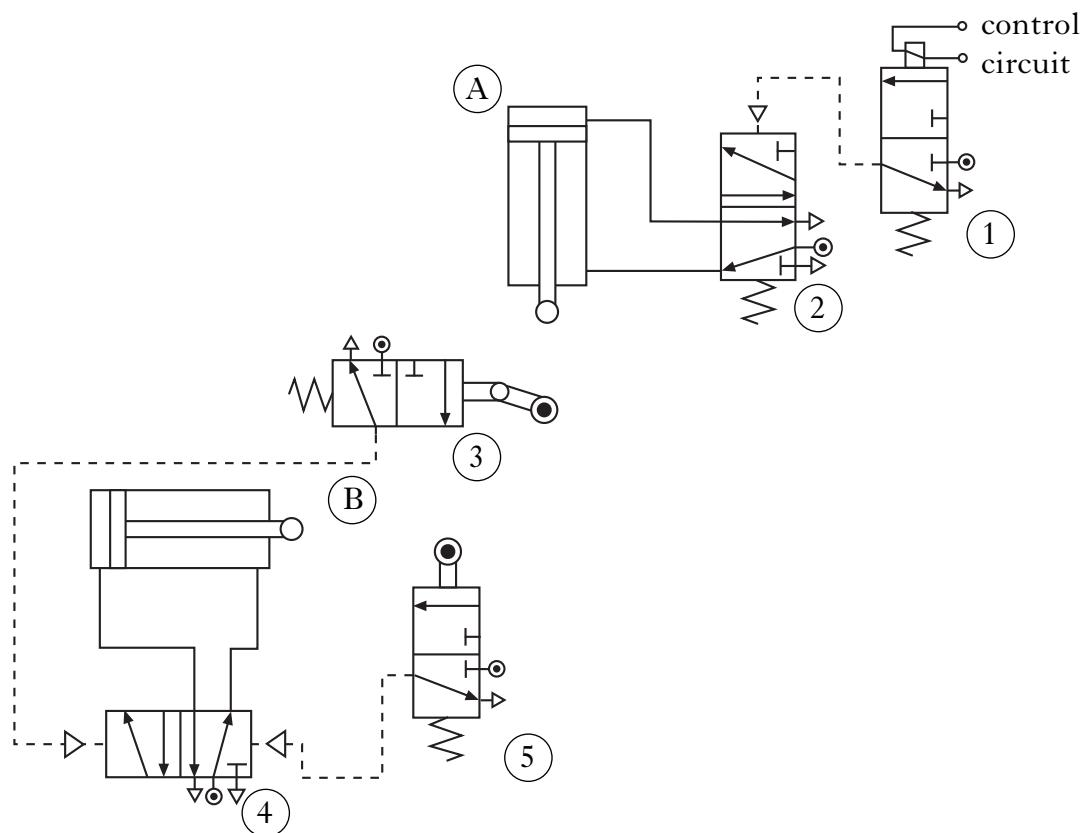

Figure Q9(a)
9. A pneumatic circuit used to place components on a production line is shown in Figure Q9(a).